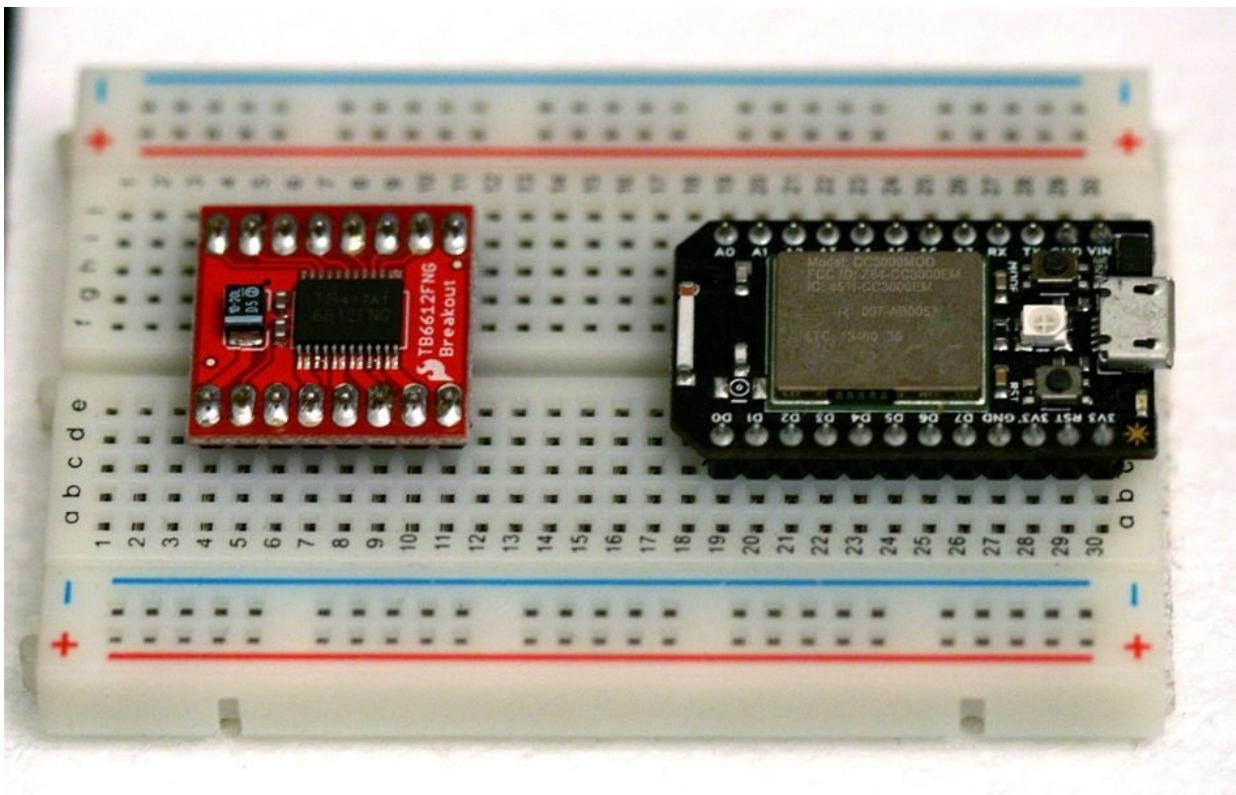

Figure 3-18. The Spark and motor driver
1. Plug your Spark and motor driver into your breadboard. They should fit next to each other comfortably. Make sure the Spark and the driver both span the divide in the center of the breadboard, as shown in Figure 3-18.